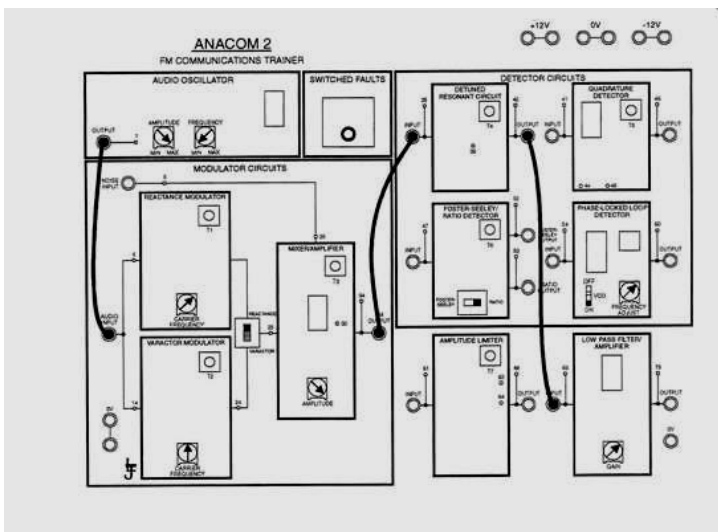

Figure 18: Detuned Resonant Circuit Detector Connections
9. Make the connections shown in Figure18.